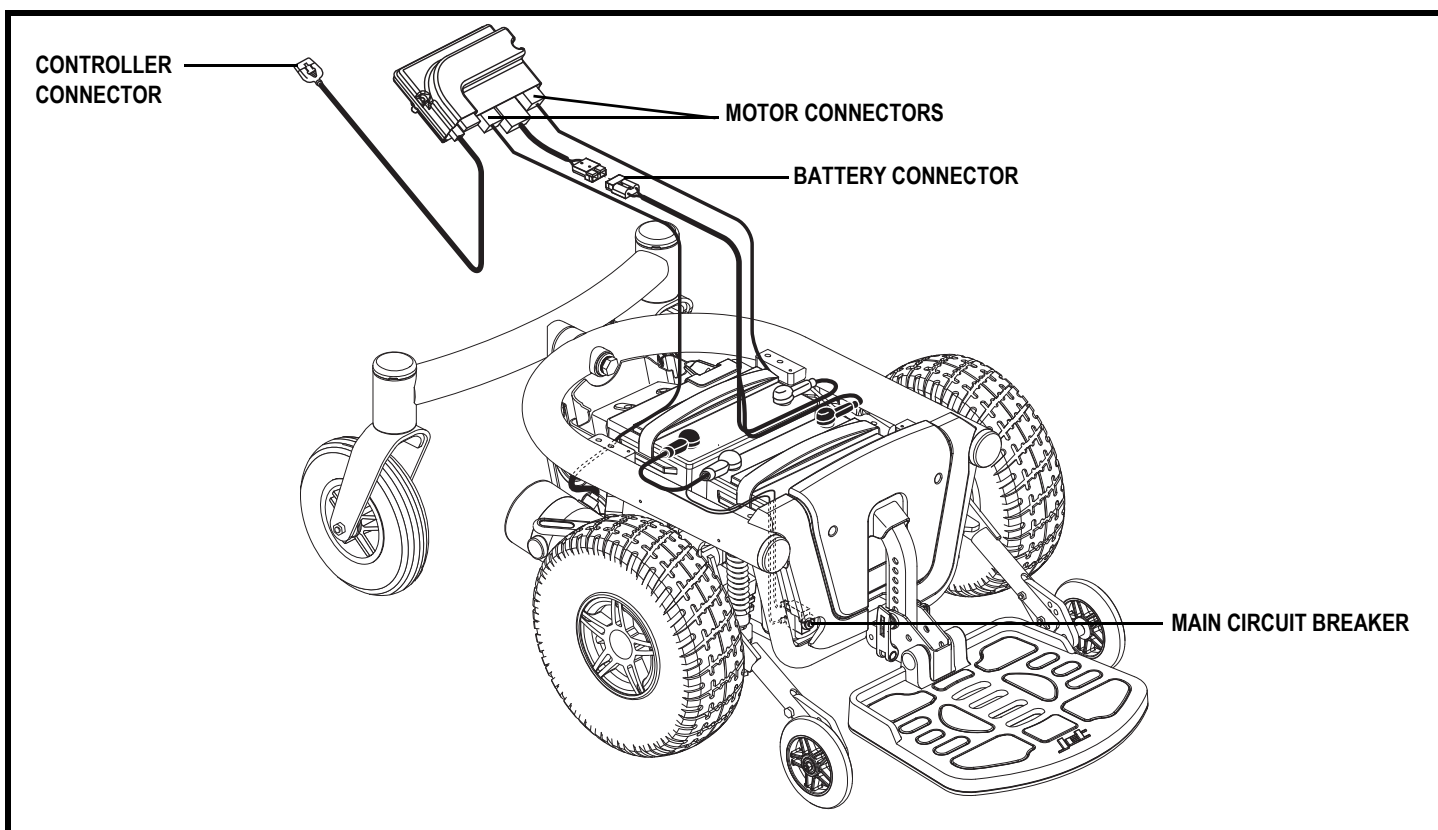

Figure 7. Jet 3 Ultra Electrical Components
The electrical components are located on the power base. The ammeter and the charger power cord receptacle are located on the right side of the power base. The main circuit breaker is located on the front of the battery tray. The controller connector and the motor connectors are located on the power pod, inside the power base. See figure 7.
8. Plug the motor connectors, the charger inhibit connector, and the battery connector into the power module. See figure 7.
2. Unplug the controller connectors from the power module. **See figure 7.**